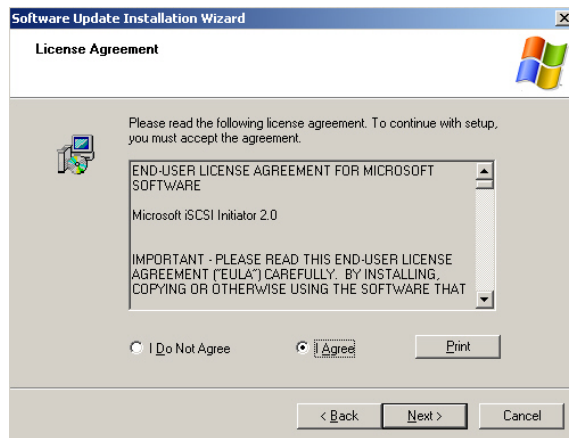

Figure C.3 Software Update Installation Wizard – Screen 3 (License Agreement)
4. When the License Agreement appears (see Figure C.3), read it, then click **I Agree** and **Next**.